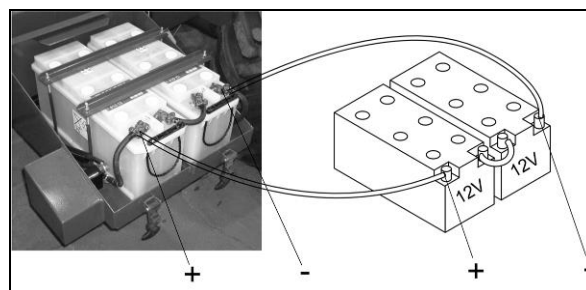

Fig. 134
1. Connect a plus pole (+) and a minus pole (-) of the two jumper batteries with each other to produce the required voltage of 24 V (Fig. 134)